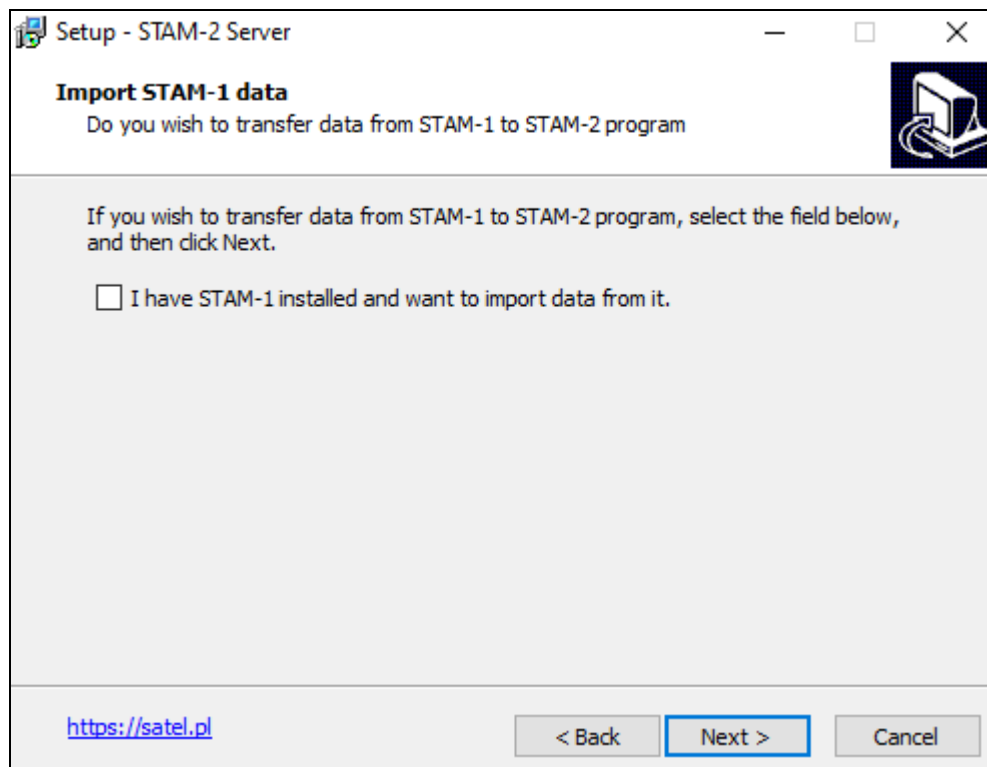

Fig. 3. Importing STAM-1 program data.
- if you want to import the STAM-1 database, check the “I have STAM-1 installed and want to import data from it” option (Fig. 3) and click “Next”,